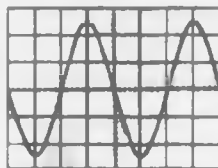

Figure A3.1
- 1 A conductor, 25 cm long is situated at right angles to a magnetic field. Determine the strength of the magnetic field if a current of 12 A in the conductor produces a force on it of 4.5 N. (3)
- 2 An electron in a television tube has a charge of 1.5×10^{-19} C and travels at 3×10^7 m/s perpendicular to a field of flux density 20 μ T. Calculate the force exerted on the electron in the field. (3)
- 3 A lorry is travelling at 100 km/h. Assuming the vertical component of the earth's magnetic field is 40 μ T and the back axle of the lorry is 1.98 m, find the e.m.f. generated in the axle due to motion. (5)
- 4 An e.m.f. of 2.5 kV is induced in a coil when a current of 2 A collapses to zero in 5 ms. Calculate the inductance of the coil. (4)
- 5 Two coils, P and Q, have a mutual inductance of 100 mH. If a current of 3 A in coil P is reversed in 20 ms, determine (a) the average e.m.f. induced in coil Q, and (b) the flux change linked with coil Q if it wound with 200 turns. (5)
- 6 A moving coil instrument gives a f.s.d. when the current is 50 mA and has a resistance of 40 Ω . Determine the value of resistance required to enable the instrument to be used (a) as a 0–5 A ammeter, and (b) as a 0–200 V voltmeter. State the mode of connection in each case. (6)
- 7 An amplifier has a gain of 20 dB. Its input power is 5 mW. Calculate its output power. (3)
- 8 A sinusoidal voltage trace displayed on a c.r.o. is shown in Figure A3.1; the 'time/cm' switch is on 50 ms and the 'volts/cm' switch is on 2 V/cm. Determine for the waveform (a) the frequency (b) the peak-to-peak voltage (c) the amplitude (d) the r.m.s. value. (7)
- 9 Explain, with a diagram, how semiconductor diodes may be used to give full wave rectification. (5)